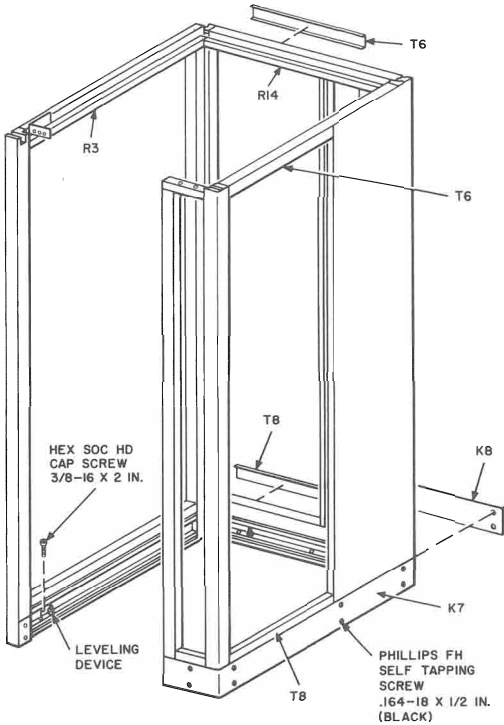

Fig. 14—Partial View of Booth
- (1) Remove and retain the following items from the right wall of previous booth (Fig. 14):
- (1) Remove and discard K8 kickplate, T6 trim strip, and T8 trim strip from outside-rear wall of both booths (Fig. 14).
- (2) Place the second List 1 booth behind the first booth and perform operations outlined in 3.06 through 3.10.
- (3) Remove R14 retaining strip from top rear-inside wall of each booth (Fig. 14).
- (4) Tie booth walls together at the top using two 1/4-20 by 1-1/2 hex socket head cap screws and at the bottom using two 1/4-20 by 3/4 hex socket head cap screws. Screws are not furnished; they must be ordered separately.
- (5) Install R14 retaining strips removed in (3) in their original positions.
- (6) Repeat 3.16.